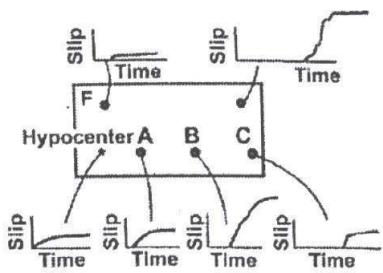

Fig. 5.12
1. Initially the slip functions are measured at various points on the hypothetical fault surface (F) with respect to the Hypocenter.
2. Graph is drawn by taking time along X-axis and slip along Y axis for the various points as shown in Fig. 5.12.